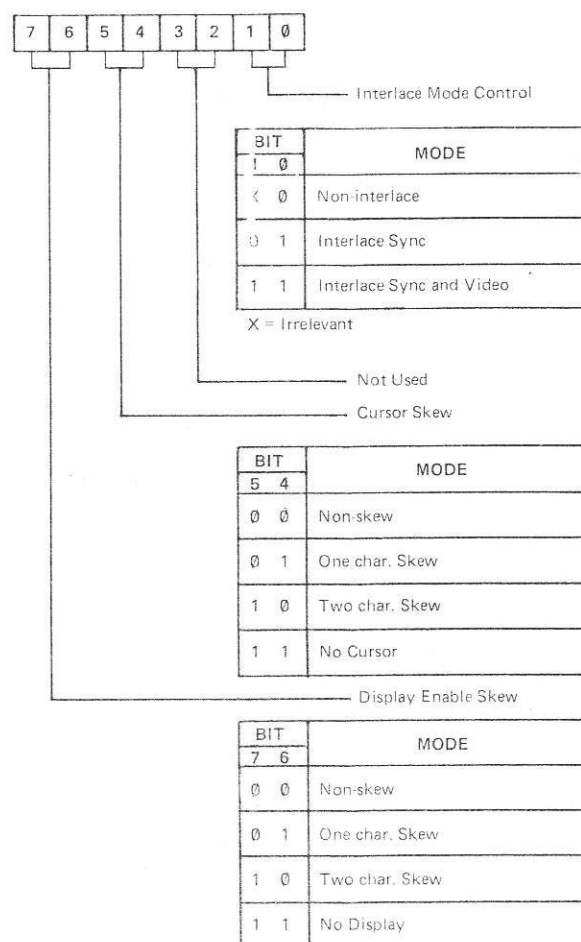

Figure 6. Interlace and Skew Register (R8) Bit Significance
- ADDRESS (AR): Contains the vector number (hex) of the specified internal Control Register in bits 0—4. Accessed by a Write operation when A0 = '0'.
- INTERLACE & SKEW (R8): Selects the VDU Controller operating mode, refer to Figure 6.